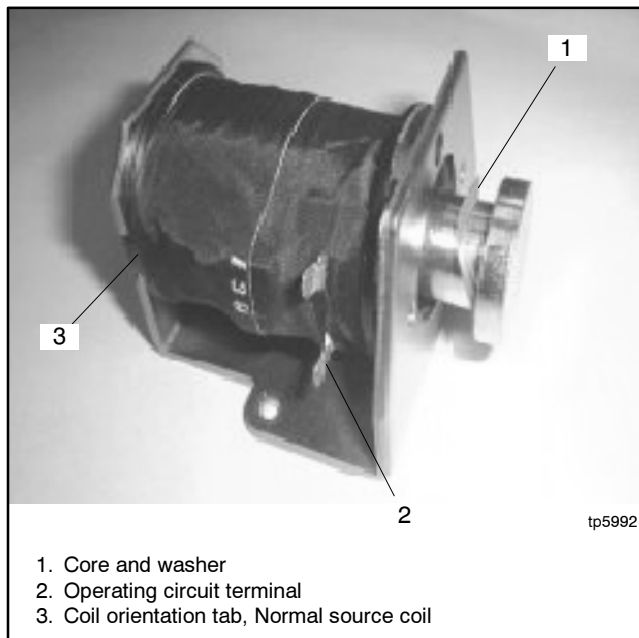
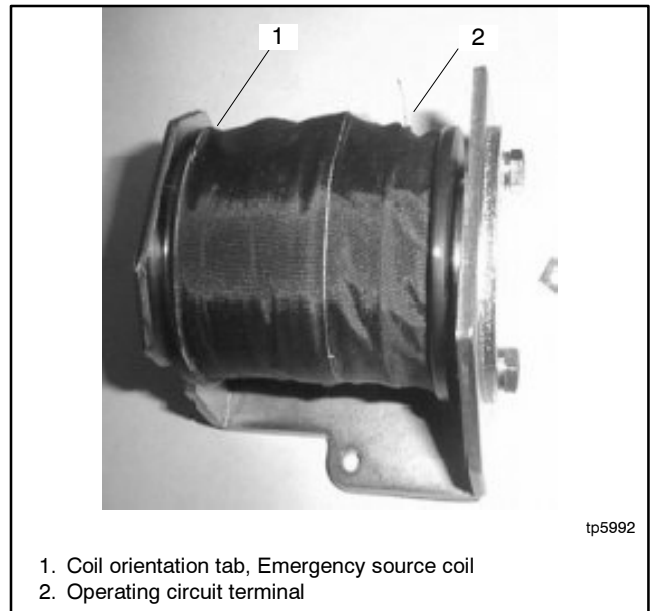

Figure 6-4 Coil Assembly, Normal Source Coil Shown (note the coil orientation)
Figure 6-5 Emergency Source Coil Assembly (note the coil orientation)
1. Position the coil in the bracket with the tab on the top of the coil and operating circuit terminal oriented as shown in Figure 6-4 for the Normal source coil or in Figure 6-5 for the Emergency source coil.
2. Insert the steel core with washer into the coil. See Figure 6-4.